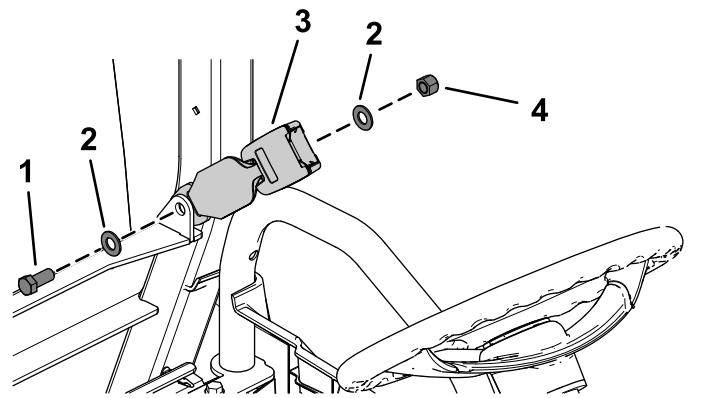

Figure 27
1. Install a seat latch using a hex-head bolt (7/16 x 1 inch), 2 flat washers (7/16 inch), and a locknut (7/16 inch) as shown in Figure 27.